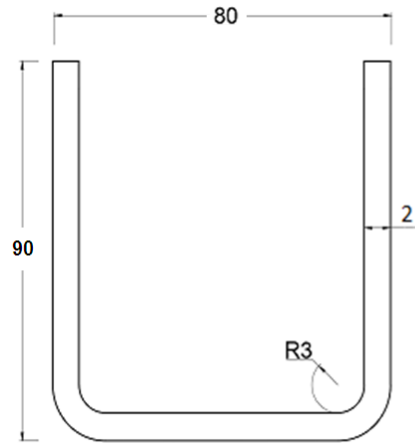

Fig No.2
3. (a) A circular cup as shown in figure no. 2 is manufactured by using deep drawing operation. (Material: MS Cup, Thickness: 2mm, Yield Strength: 35 kgf/mm²). Determine following. **20**